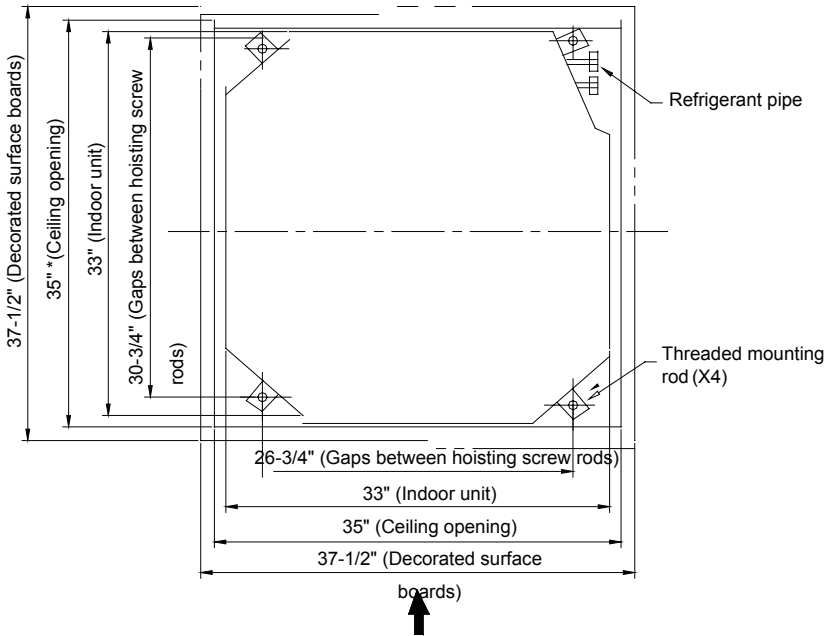

Fig. 2 Installation Dimensions of Model DHMW24NKB21S
(3). Mount the unit to the previously installed threaded mounting rod. (Refer to Fig. 2 above.)